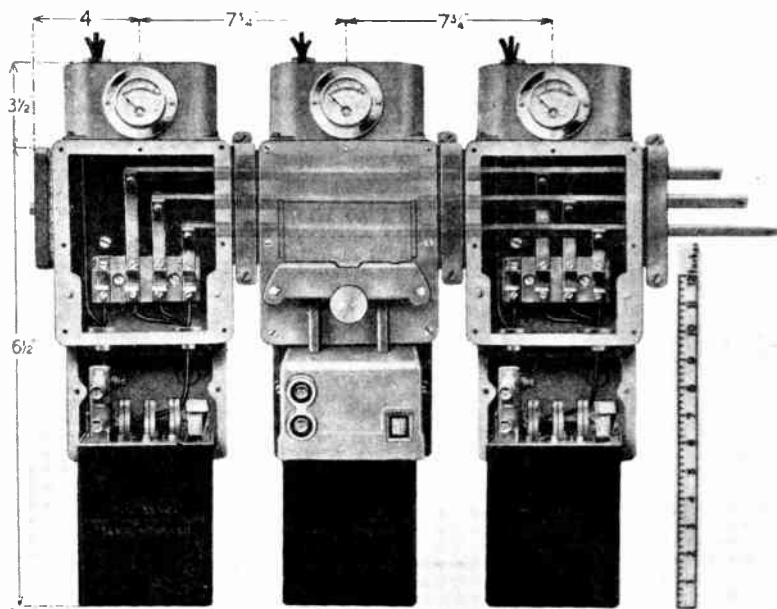
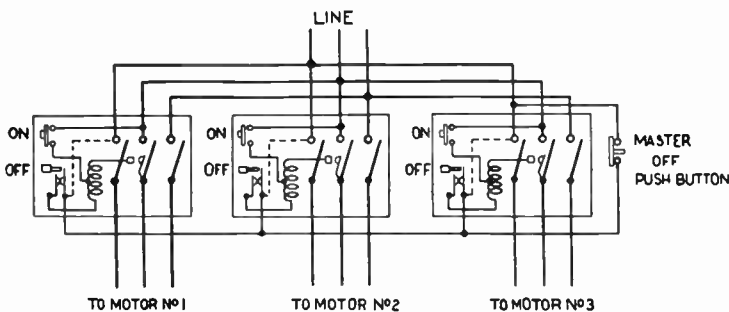

Fig. 19.—GROUP OF B.T.-H. ELECTROMAGNETIC STARTERS AND CIRCUIT BREAKERS.
Fig. 20.—CONNECTIONS OF A GROUP OF B.T.-H. ELECTROMAGNETIC STARTERS AND CIRCUIT BREAKERS WITH MASTER "OFF" PUSH BUTTON.
Fig. 15.—INTERNAL VIEW OF ELECTROMAGNETIC DIRECT STARTER AND CIRCUIT BREAKER. (B.T.-H. Co.) This view shows the push buttons (left), the "on" "off" indicator (right), the heaters for the thermal relay, and the tripping bar. An external view is shown in Fig. 19.
On the left (A) is shown the relay completely assembled, and on the right are shown the parts, viz., the heating element (B), the steatite tube (E), the bi-metallic spiral (D), and the anchoring pin (C). This form of the thermal relay is used for the larger current ratings (20-30 amps.). For the smaller current ratings separate bi-metallic strips directly heated are used as shown in Fig. 19.
When a number of small motors grouped together are to be controlled, the starters may be grouped together as illustrated in Fig. 19. In this case the starters are interconnected by bus-bars, and isolating contact plugs are fitted to enable any starter to be isolated from the bus-bars. Fig. 20 shows a diagram of the connections in which a master "off" push-button is included for simultaneously opening the whole group of starters from a remote point; while each starter can be controlled individually.